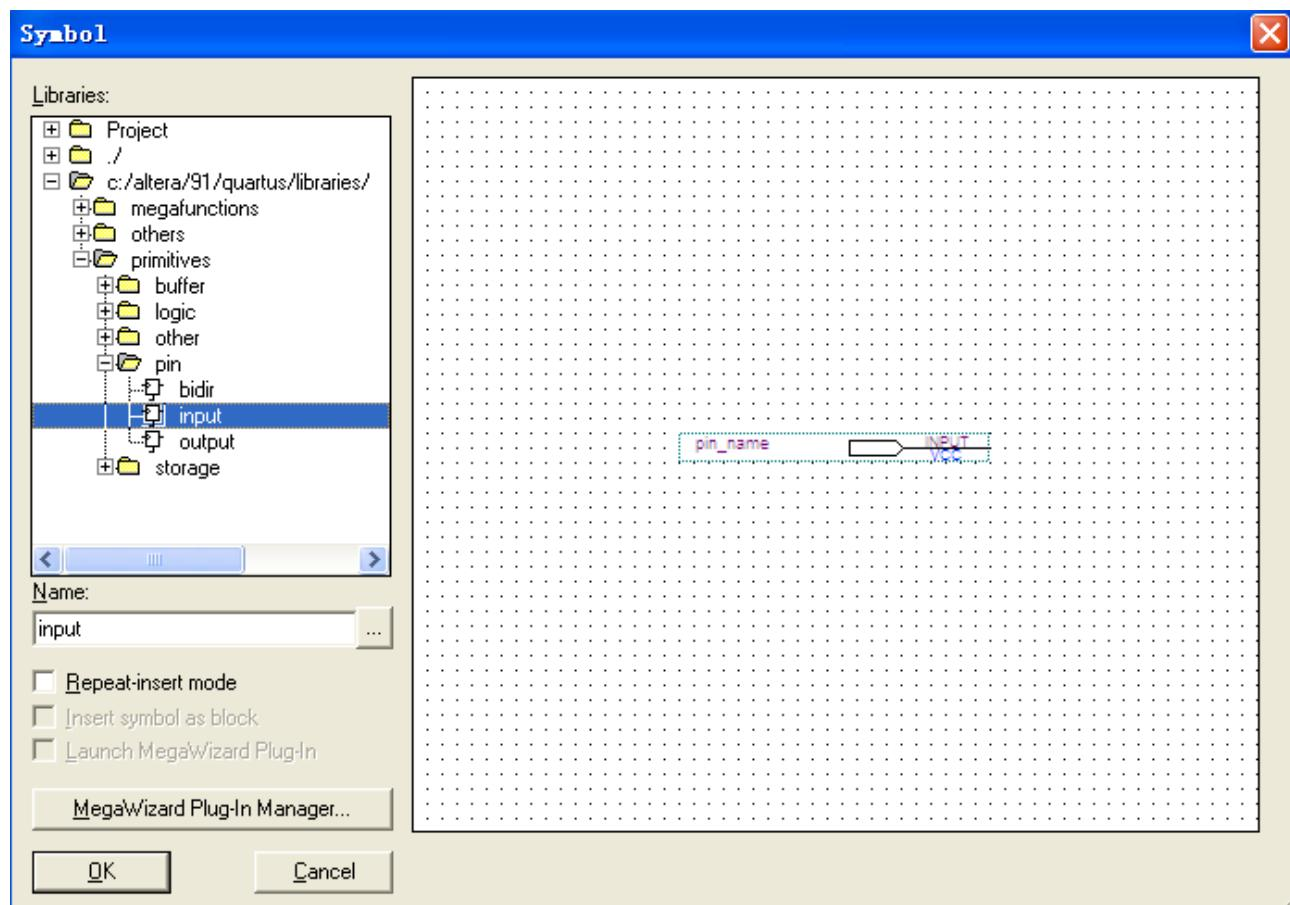

Figure 3-17 Input pin symbol
- Under Libraries, select quartus/libraries > primitives > pin > input. See **Figure 3-17**